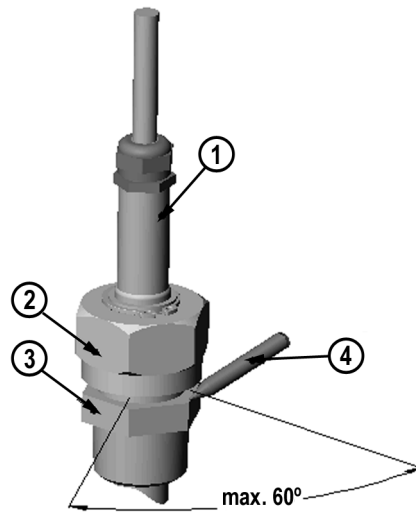

Figure 15 **Tightening the Clasp Nut**
The following numbers refer to Figure 15 on page 34:
10. Tighten the clasp nut with a fork spanner a further 50 ... 60° (ca. 1/6 turn). If you have a suitable torque spanner, tighten the nut to max 45 ± 5 Nm (33 ± 4 ft-lbs). Refer to Figure 15 on page 34.